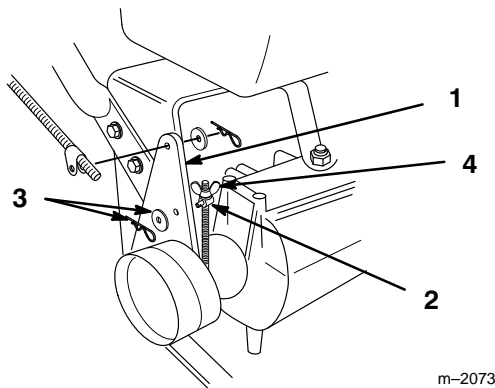

Figure 11
6. If brake adjustment is required, remove hairpin cotter and washer securing brake rod fitting to idler bracket (Fig. 11).
7. Adjust wing nut up or down on brake rod and secure fitting to idler bracket (Fig. 11). Check adjustment and readjust if necessary.